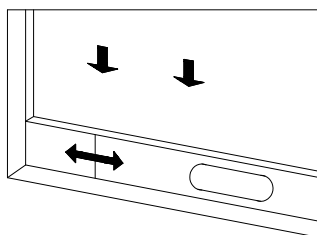
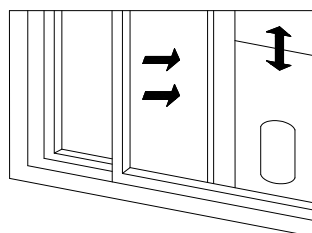

Figure 2
Figure 3
1) Half open the window ,and mount the window sealing plate assembly to the window (as shown in Fig.2 and Fig.3).Components can be placed in horizontal and vertical direction.